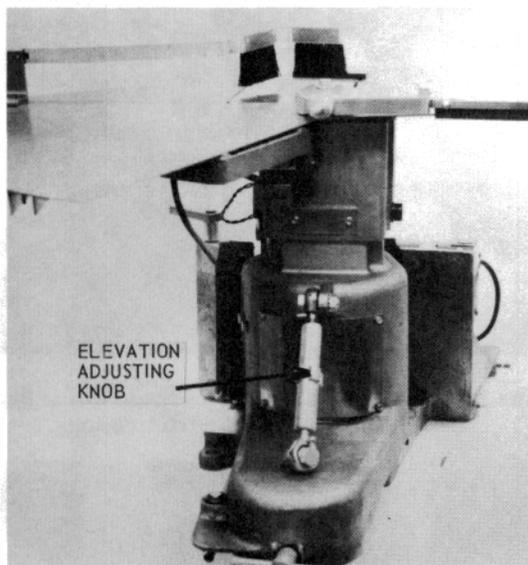

Figure 68 – Elevation Adjusting Knob Assembly Disconnected
- 6.1.4 Disconnect the elevation adjusting knob assembly (see Figure 68).